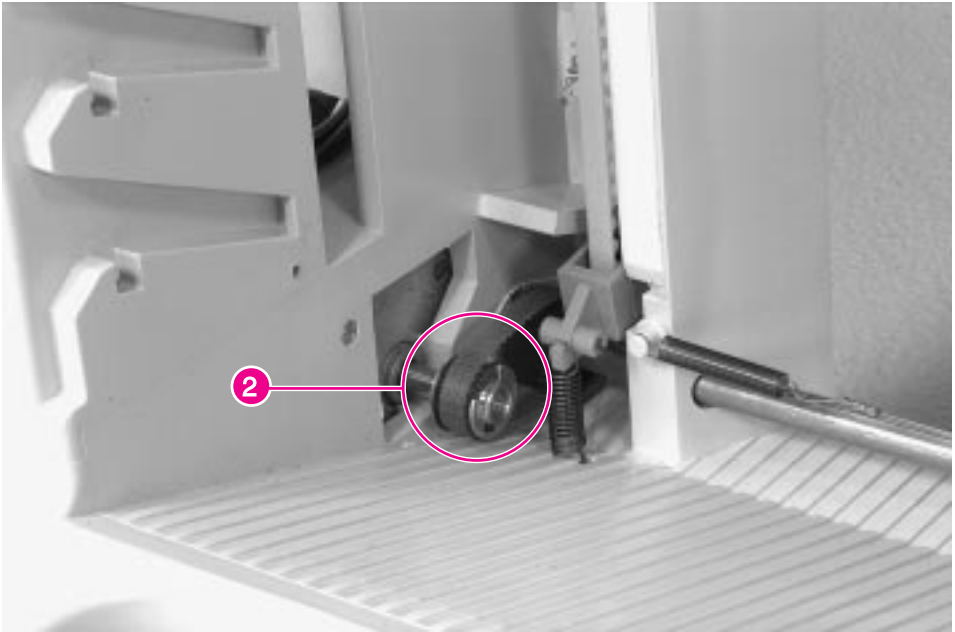

Figure 6-73 Mailbox with Stapler, Transport Belt Drive Gear
- 5 Remove the small drive belt (figure 6-73 on page 242, callout 2) from the motor drive gear.